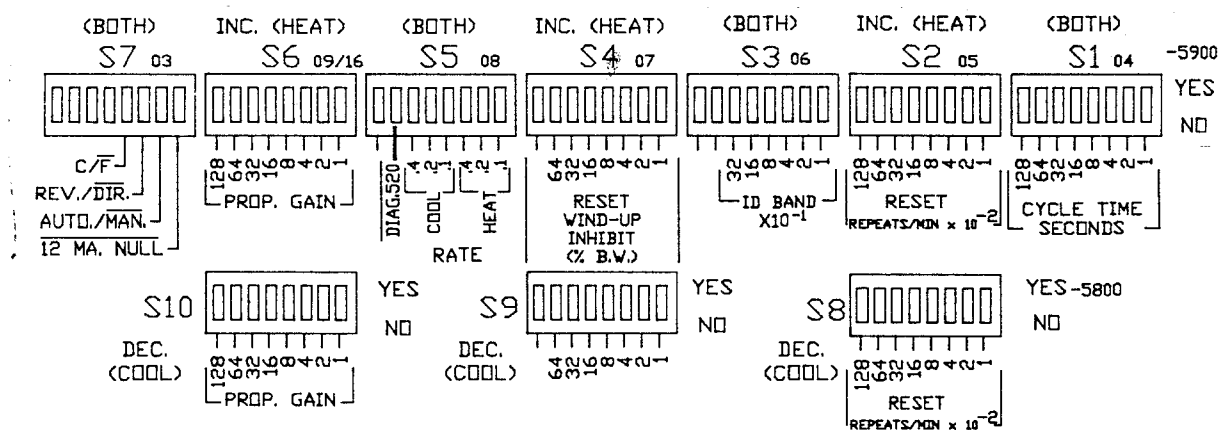
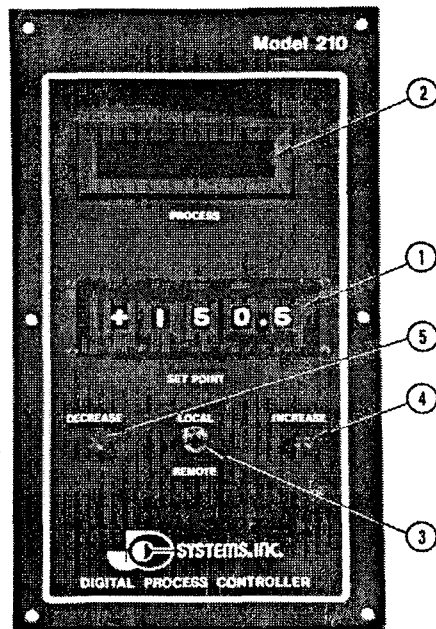

Figure A-10: Controller PCB DIP Switch Locations.
Figure A-11: Front Panel Displays and Switches.
The DIP switches involved are all located on the upper edge of the controller printed circuit board (PCB) as shown in Figure A-10. Figure A-11 shows the controller display areas you will need to monitor while setting those switches. If you have a dual-channel controller, you will need to set the switches on both controller boards. On a dual-parameter (dual adjust) board, you will need to set the PID parameters and reset windup inhibit for both heat and cool modes. When heat parameters are active, a red LED near DIP switch S1 lights; when cool parameters are active, the LED goes out.
Set controller switch S1 to 255 whenever the power proportioning output (current loop option) is connected. Setting any other value will cause the process variable display (Figure A-11 Item 2) to display the word "LOOP" until the S1 setting is corrected or the current loop board is disconnected.
3. Carefully monitor the PROCESS temperature display (Figure A-11 Item 2), which shows the actual temperature the sensor is recording, to determine the temperature at which overshoot peaks.